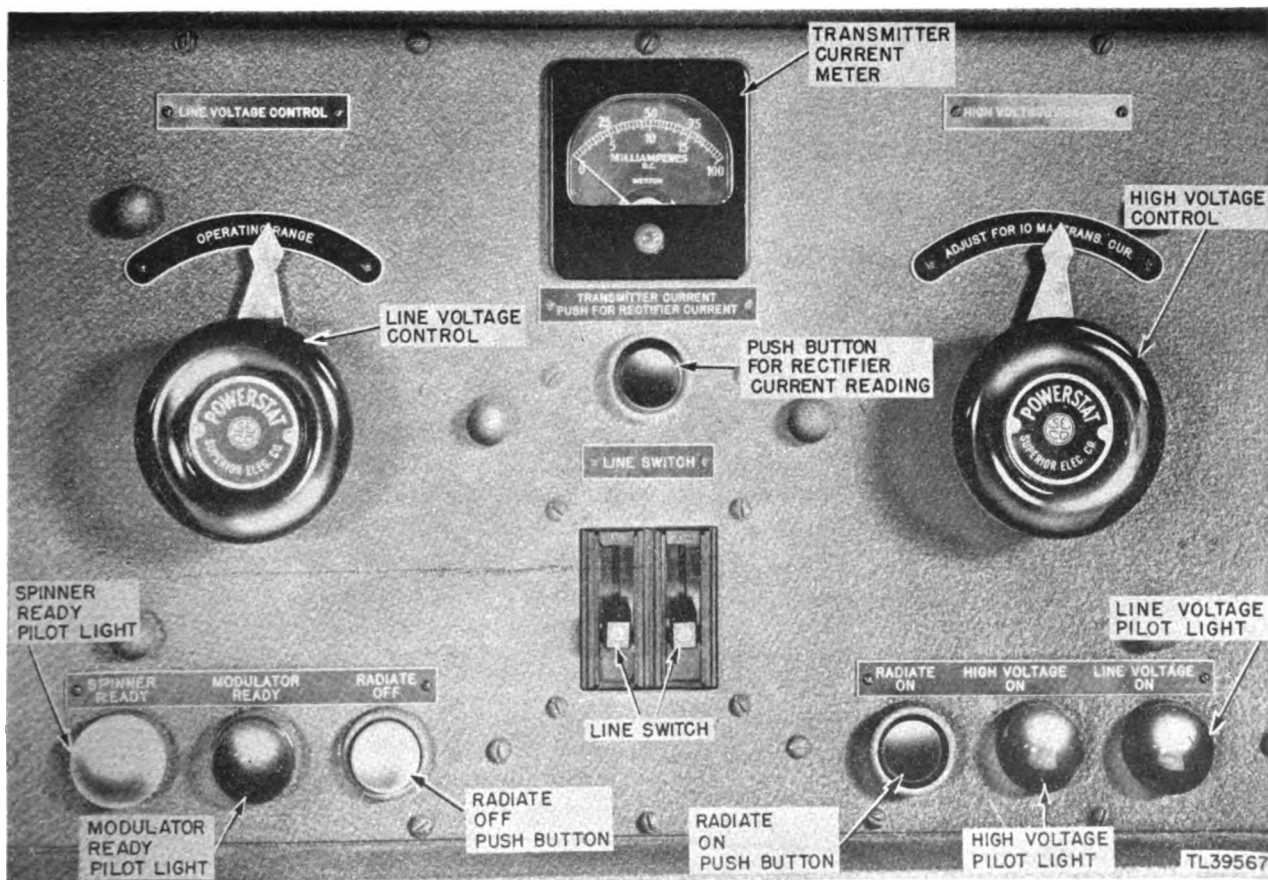
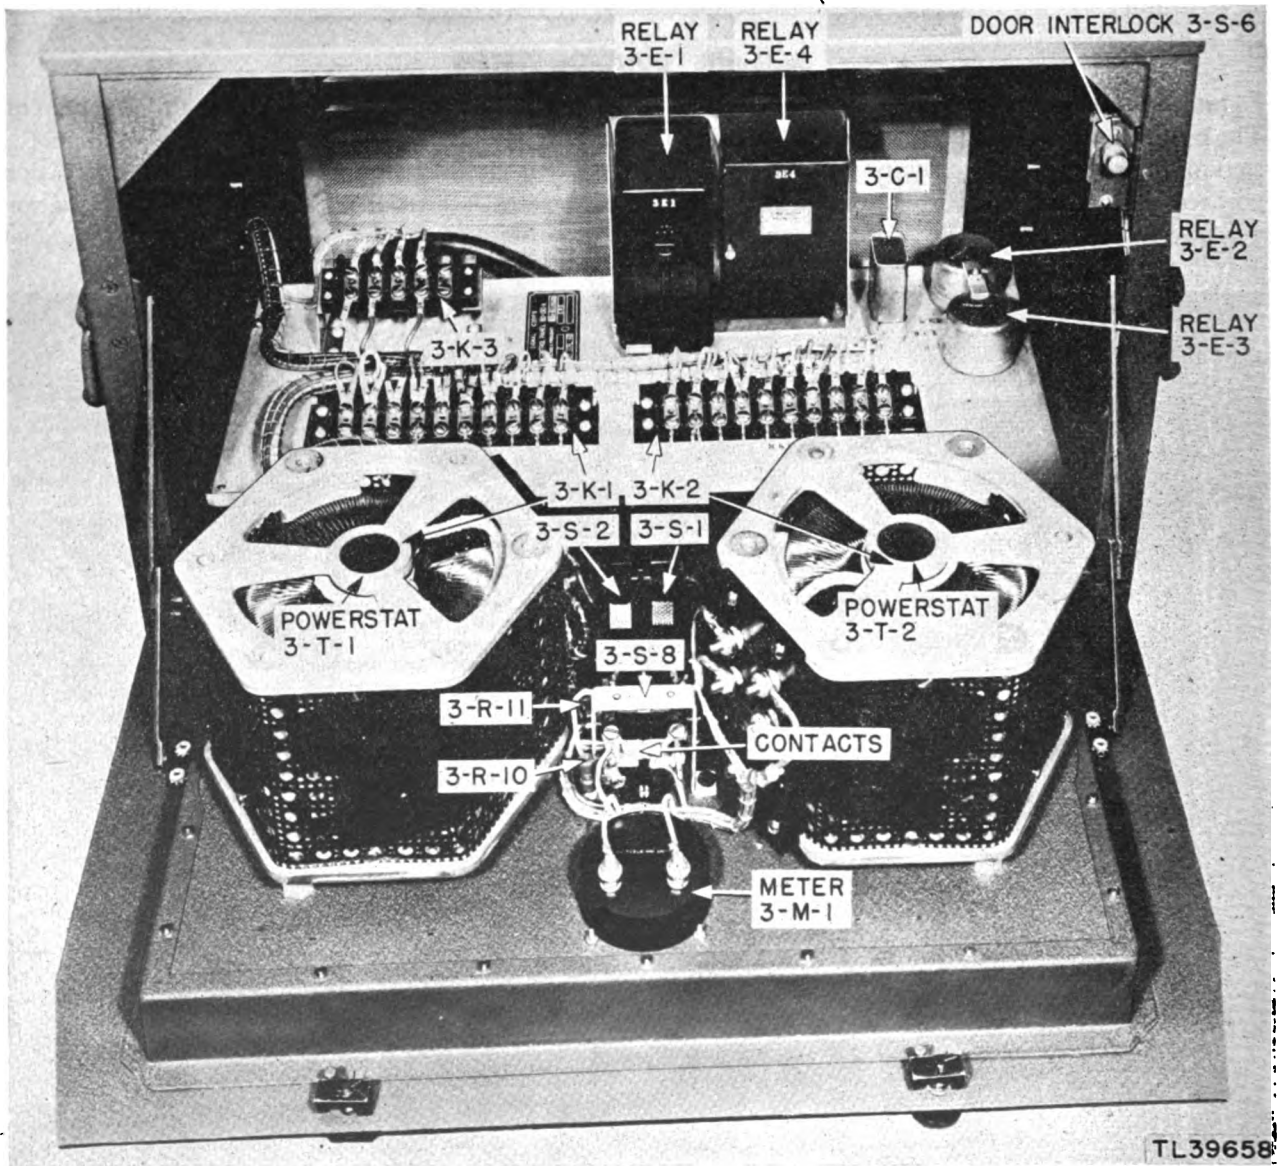
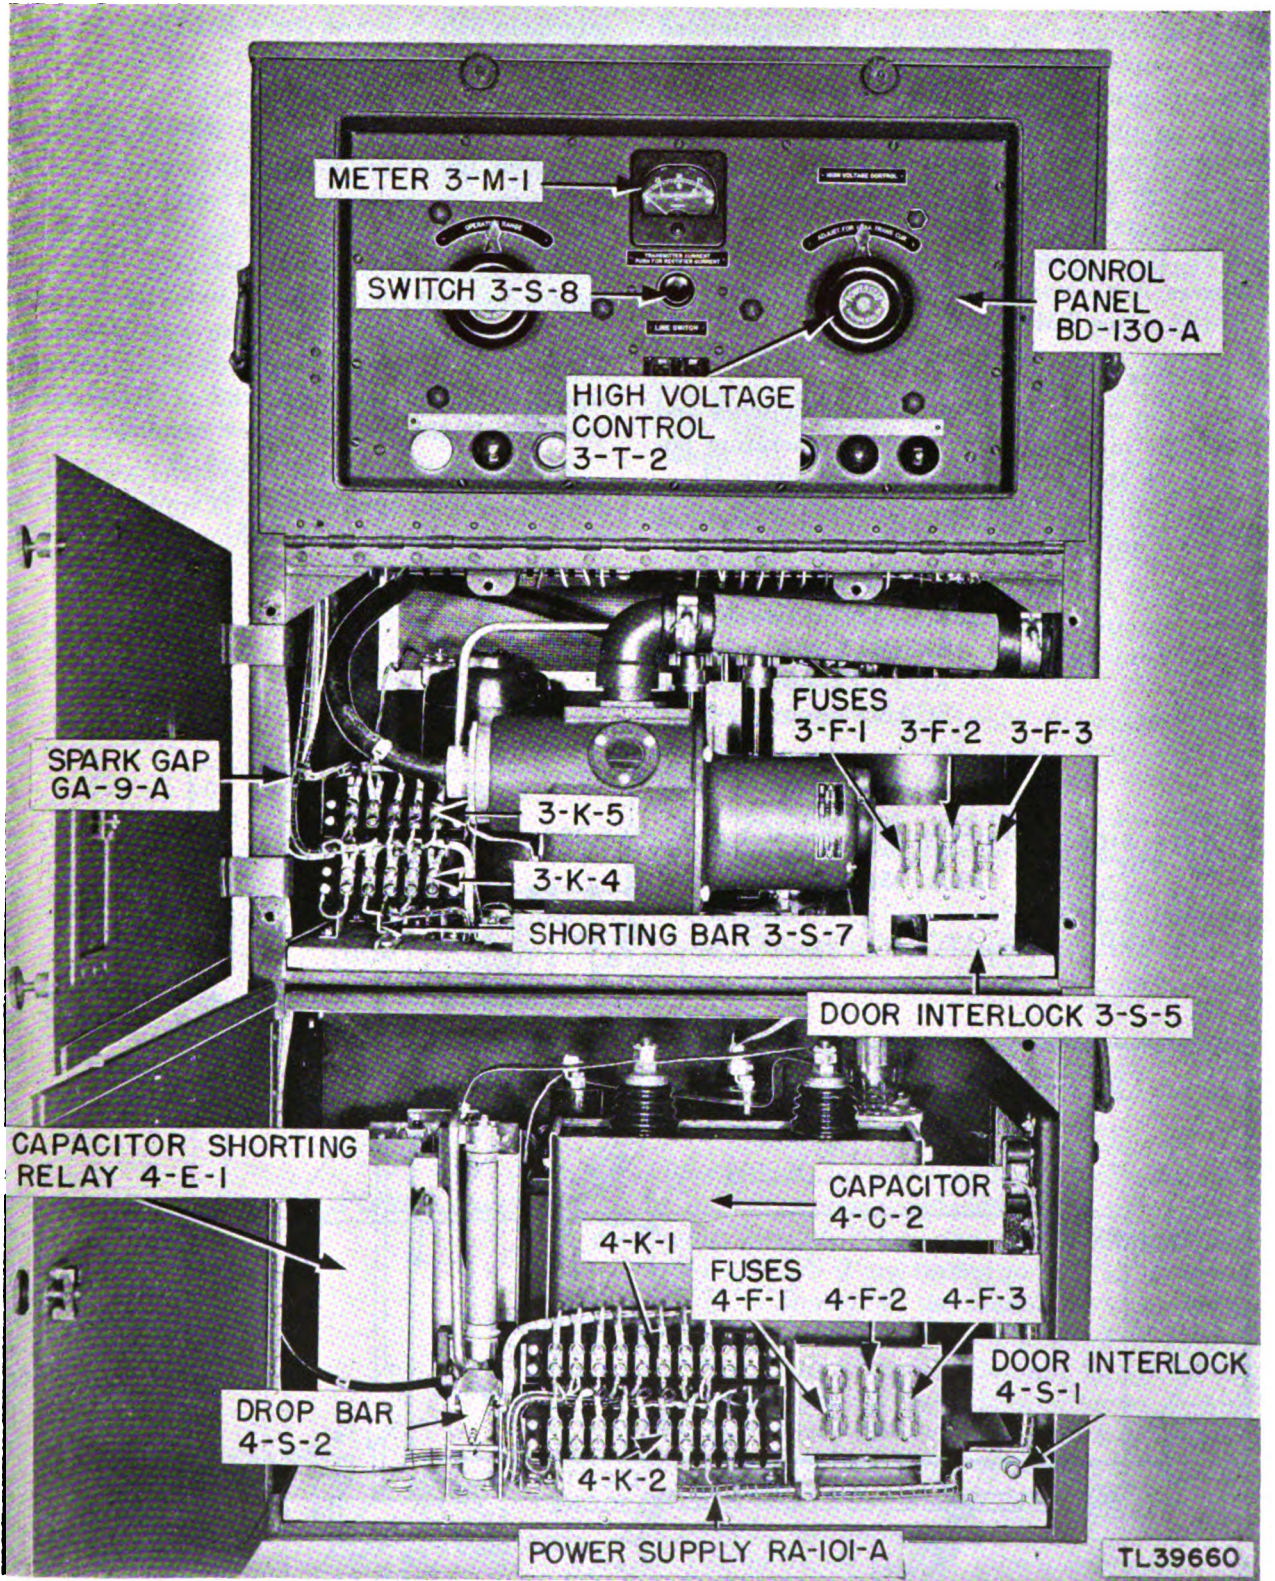

Figure 8. Control Panel BD-130-A, front view.
Figure 9. Control Panel BD-130-A, general view of interior.
Figure 12. Modulator Unit BC-1194-A.
overload and underload. The control panel (fig. 8) of the modulator unit is the control board, or operations center, for most of the control circuits. The control system of Radio Set SCR-682-A is divided into eight basic circuits, each of which in turn may be subdivided into several individual circuits. The eight basic circuits are listed below and are described in paragraphs 8 through 16.
CONTROL regulating transformers or powerstats (figs. 8 and 9) will permit operation within limits of 105 to 135 volts.
and 9-S-1 in the indicator unit, and three door interlocks 3-S-5, 3-S-6, and 4-S-1 (figs. 9 and 12) in the modulator unit.
b. Switches include R. F. UNIT switch 1-S-4, SAFETY switch 1-S-5, and ROTATE switch 1-S-1 on the pedestal (fig. 10); SCAN switch 7-S-4 in the indicator unit; and two LINE SWITCHES 3-S-1 and 3-S-2, RADIATE ON push button 3-S-4, and RADIATE OFF push button 3-S-3 in the modulator unit (fig. 8).
c. In the modulator unit are two powerstats (figs. 8 and 9), one of which, 3-T-1, controls a regulated output, while the other, 3-T-2, controls the input to the high-voltage transformer 4-T-2.
- a. The green LINE VOLTAGE ON light 3-A-2 (fig. 8) glows. This light with its series resistors 3-R-1 and 3-R-2 is connected across the 120-volt line.
- b. The heater 3-A-1 inside the rotary spark gap receives power. This heater 3-A-1 is protected by fuse 3-F-3 (fig. 12).
- c. The modulator unit convenience outlets 4-K-5 are energized. Fuse 4-F-1 (fig. 12) is connected in this circuit.
Those circuits for which voltage is not controlled by a powerstat are included in the unregulated supply circuit. When the LINE SWITCHES 3-S-1 and 3-S-2 are turned to the ON position, voltage is applied to the modulator unit blower motor 3-A-3, spark-gap drive motor 3-A-4, spinner drive motor circuits (through SCAN switch 7-S-4), transmitter tube blower motor 1-A-4, and the receiver blower motor 1-A-3. Voltage is also applied to the white pilot lamp 3-A-6 and the time delay relay 3-E-4. After approximately 45 seconds, the amber MODULATOR READY pilot lamp 3-A-5 (fig. 8) glows, indicating that the set can be put into operation by pressing the RADIATE ON button. The following circuits are energized as soon as the LINE SWITCHES are turned on:
g. TIME DELAY RELAY COIL. At the time that the white pilot lamp glows, the coil in the time delay relay 3-E-4 (fig. 9) is energized. After this relay coil has been energized for approximately 45 seconds, the time delay relay contacts 3-E-4-1 close. This causes the amber MODULATOR READY pilot light 3-A-5 (fig. 8) to glow. This lamp is connected across the 120-volt unregulated source through the time delay relay contacts, the interlock switches 3-S-6, 3-S-5, and 4-S-1, the parallel resistors 3-R-3 and 3-R-4, and the plate relay contacts 3-E-1-1. See paragraph 18 for a discussion of the time delay relay.
Those circuits which are fed from the output of powerstat 3-T-1 are included in the regulated supply circuit. The voltage output of this powerstat can be adjusted by means of the LINE VOLTAGE CONTROL (fig. 8). When the LINE SWITCHES are thrown to the ON position, regulated voltage is applied across the filament transformer (4-T-1) of the rectifier tubes of Power Supply Unit RA-101-A, transmitter tube filament transformer 1-T-1, line voltmeter 5-M-1, running time meter 5-M-2, and the indicator control panel lamps 7-A-1, 7-A-2, and
a. **ACTION OF CAPACITOR SHORTING RELAY (fig. 12).** When the capacitor shorting relay contacts 4-E-1-1 close, the coil of the plate relay 3-E-1 (fig. 9) receives power and operates four sets of contacts, 3-E-1-1, 3-E-1-2, 3-E-1-3, and 3-E-1-4. The operation of these contacts causes the following actions:
(1) Relay 3-E-3 (fig. 9), called the direct-current overload relay (D.C.O.L.) is connected in series with the ground return of the high-
(2) The transmitter tube underload relay 3-E-2 (fig. 9) operates when 6 milliamperes or more of transmitter current flows in the circuit. The contacts short out the RADIATE ON switch, keeping the circuit closed after the push button is released.
(3) The capacitor shorting relay 4-E-1 (fig. 12) has a set of contacts which remove the short from capacitor 4-C-2 when power is applied by pressing the RADIATE ON button. A further explanation of the operation of these relays, con-